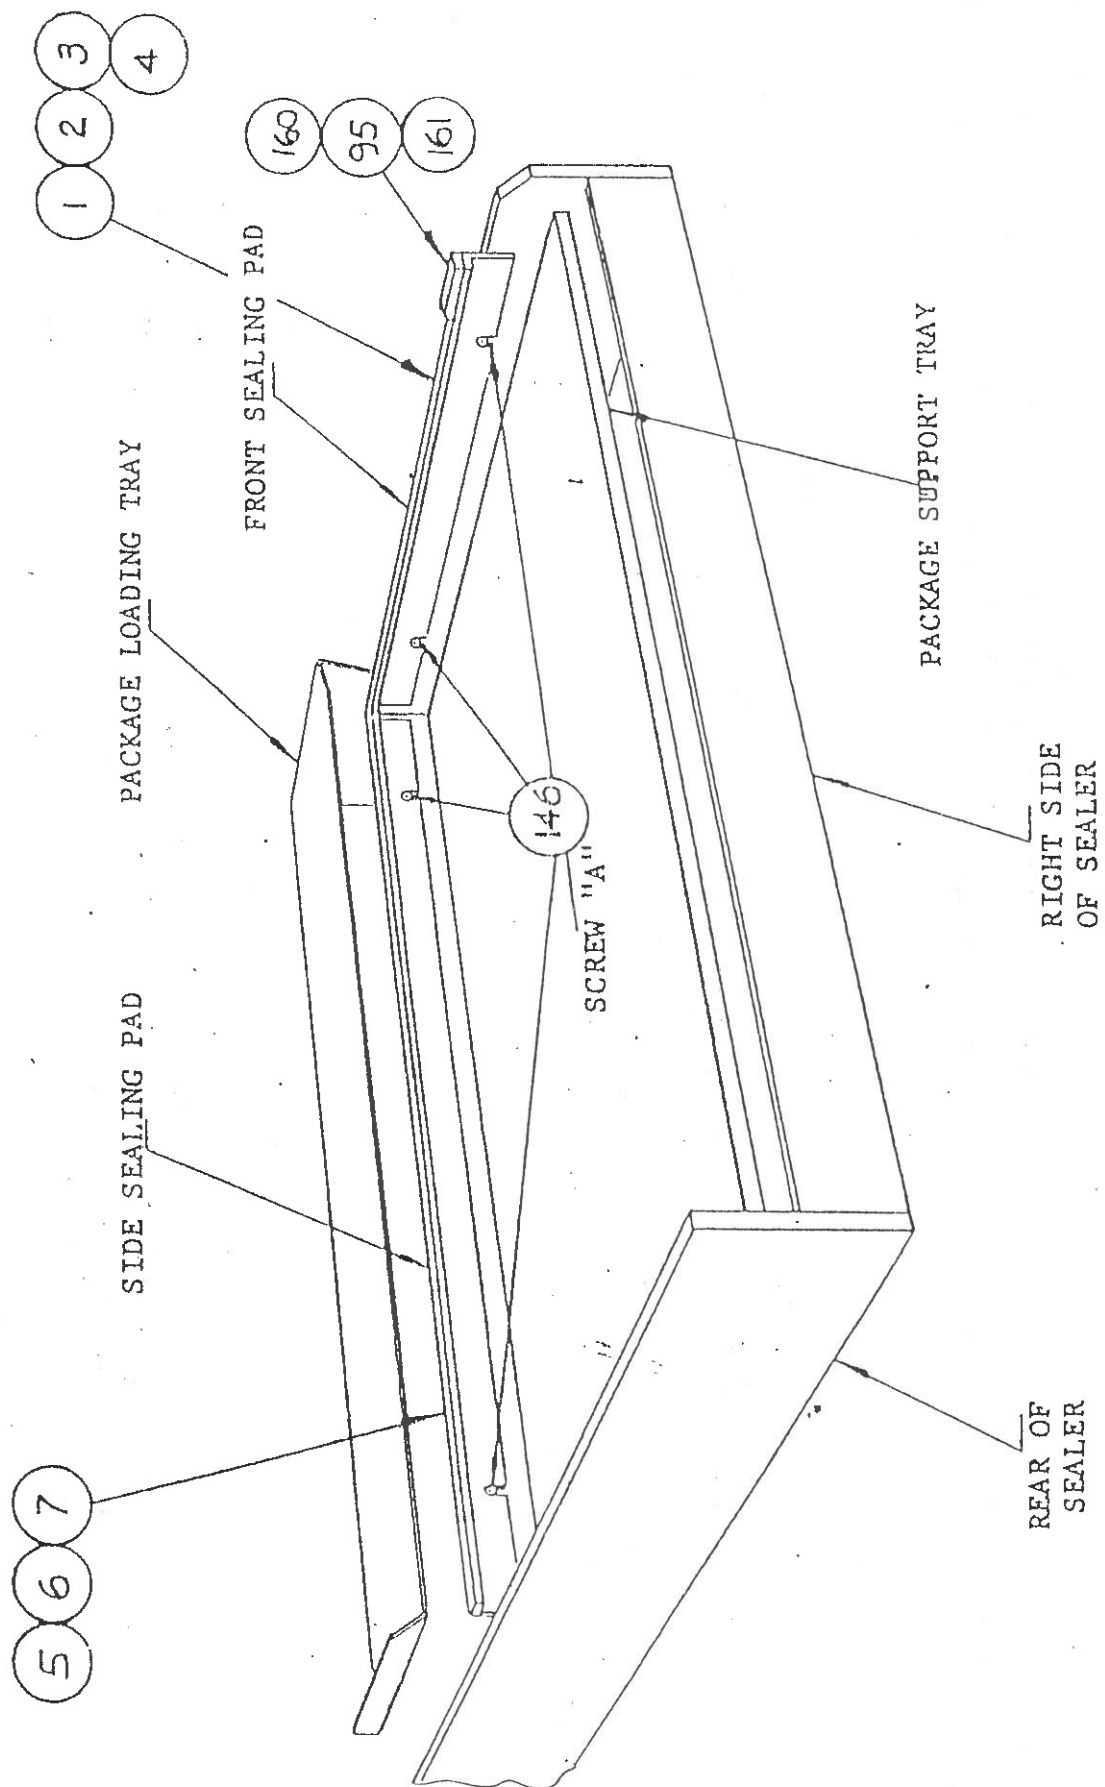

Figure 10.2 Sealing Pad Maintenance
- a. Refer to Figure 10.2. Using an allen-wrench, loosen all four screws "A" and remove both sealing bars from the sealer.
- a. Disconnect the sealer's power plug from the power source. Referring to Figure 10.2, loosen all four screws "A" just enough to maintain a moderate sliding pressure.